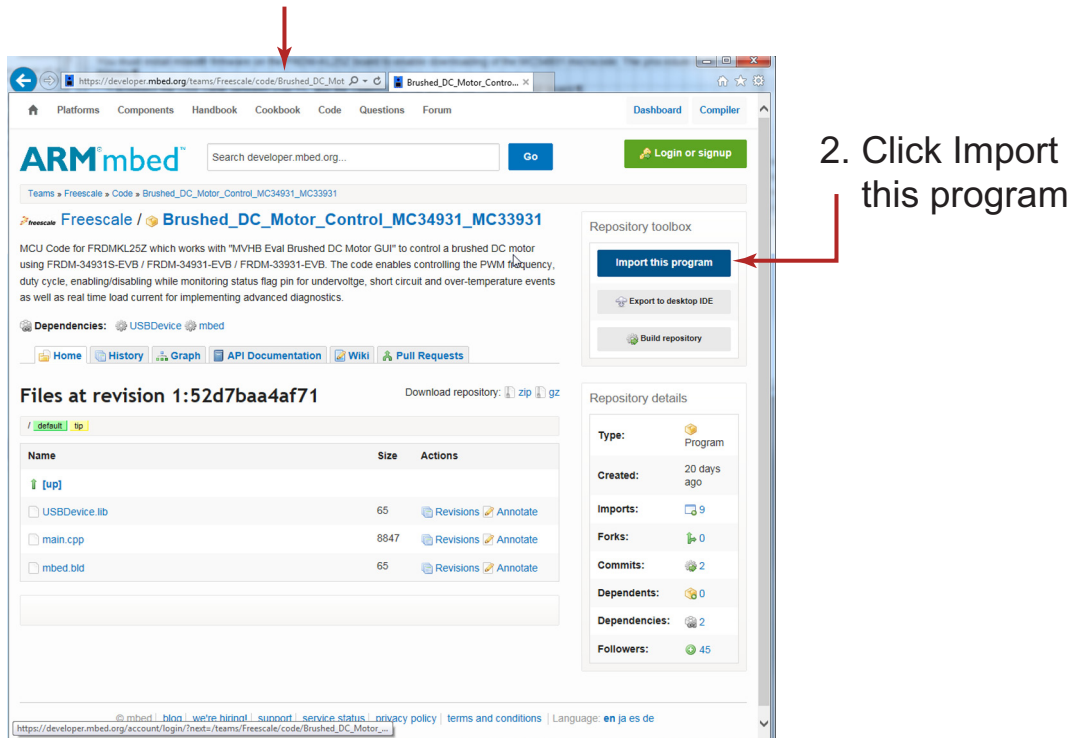

Figure 15. MC33931/MC33931 mbed Import Screen
3. Login to your mbed account. (If you do not have an mbed account, you must create one.) After logging in, you will be returned to the screen in Figure 15. Click on Import this program again.